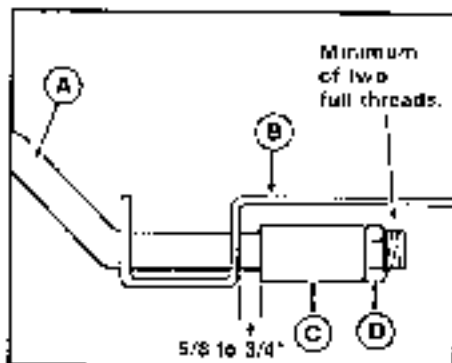

Figure 30. Brake Adjustment
- Locate the brake band (figure 30) which is located to the inside of left rear tire.
- Measure the gap between the spacer and the brake band (figure 30). The gap should measure between $5/8$ inch and $3/4$ inch (16 to 19 mm). If not, loosen or tighten the brake rod nut (D) to achieve measurement. For safety, a minimum of two full threads must extend thru the nut.